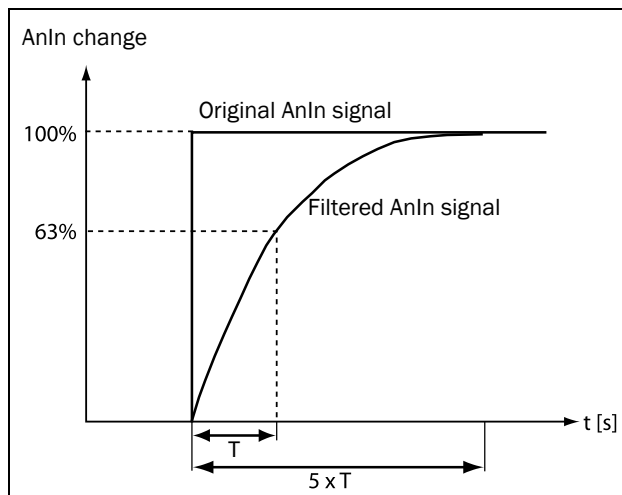

Fig. 62
If the input signal is unstable, the filter can be used to stabilise the signal. See Fig. 62. This will result in a 63% change of the input signal within the set “AnIn Filter time” (T). After 5 times the set time (i.e. 5xT), AnIn will have reached 100% of the input change.